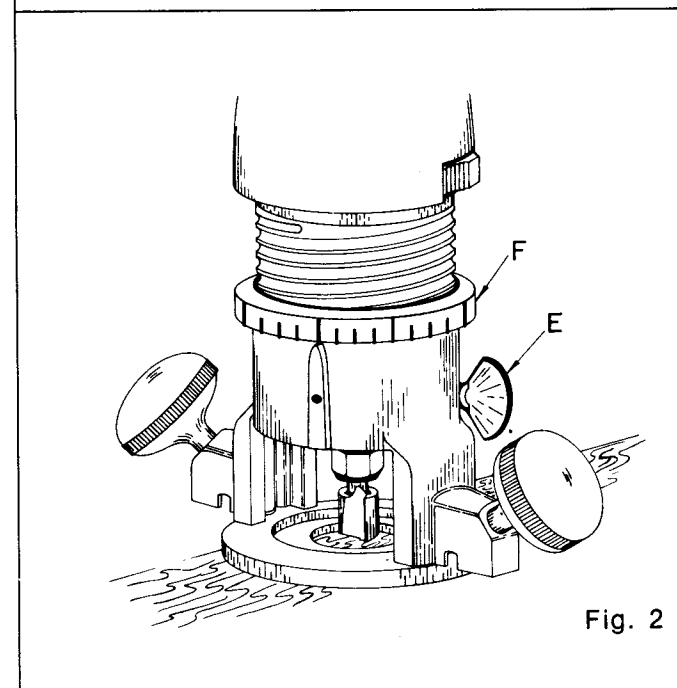

Fig. 2
2. Place the router on a flat surface and loosen wing nut (E). See Figure 2.
3. Turn the adjusting collar (F) until tip of cutter touches flat surface.